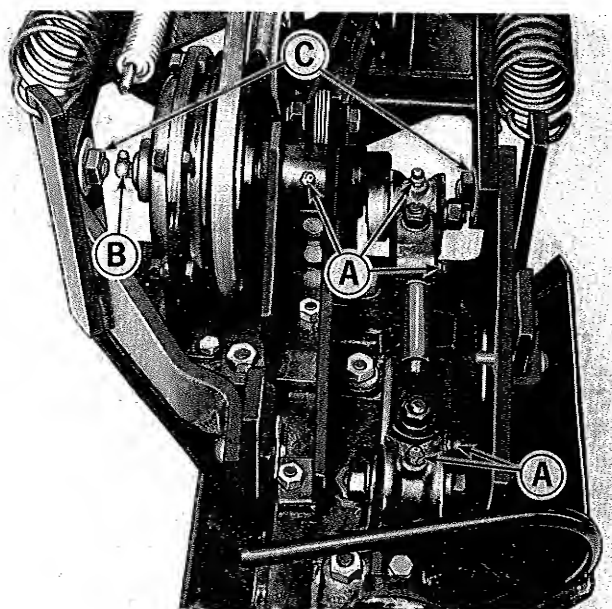

Figure 21. Cutter bar lubrication points.
A multi-purpose lithium soap base grease designed to operate at high temperatures must be used in the lubrication of your sickle bar mower. This grease is available from your Simplicity dealer. See figure 21. The five grease fittings (A) should be lubricated until grease is seen forced from the bearings. Grease fitting (B) should be lubricated with about five shots or until the grease is seen forced out of the assembly, whichever occurs first.
- Figure 21, Item C Cutter Bar Pivot